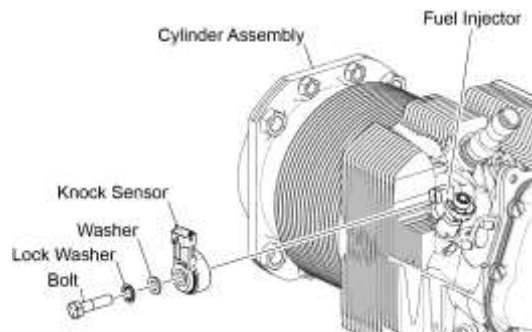
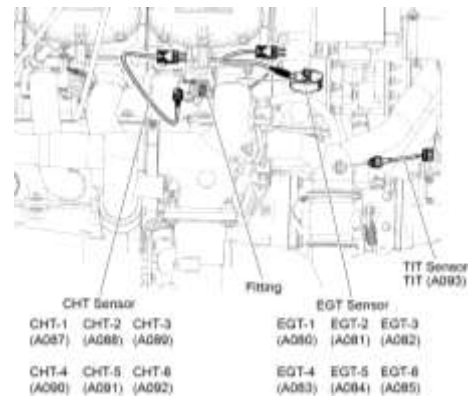

Figure 16
Figure 17
E. Disconnect and remove the Knock Sensor (Figure 16) and Cylinder Head Temperature Sensor (Figure 17) from the engine cylinder. Refer to the "Sensor Replacement Procedures" in Chapter 72-70.